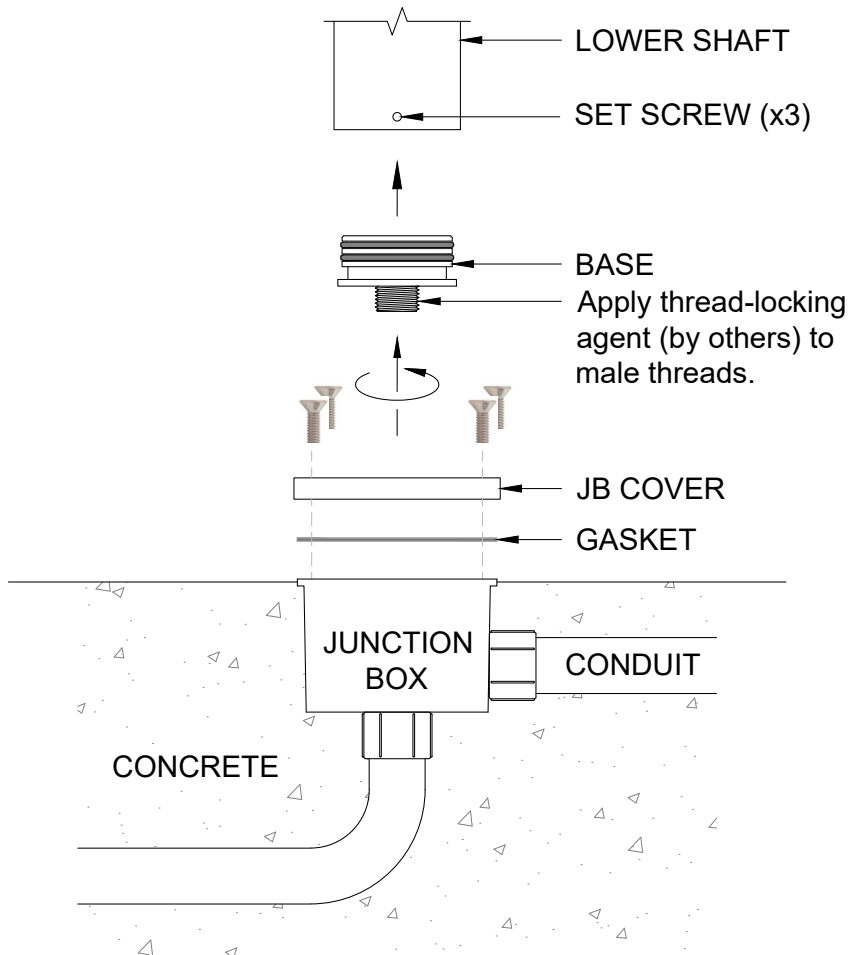

Figure 2
1. Dig a hole at desired location at least 12" diameter x 12" deep and run conduit as necessary for power supply wires. Position the Junction Box (JB) so that the bottom of its Cover will be above grade after the concrete is poured. (Figure 2)